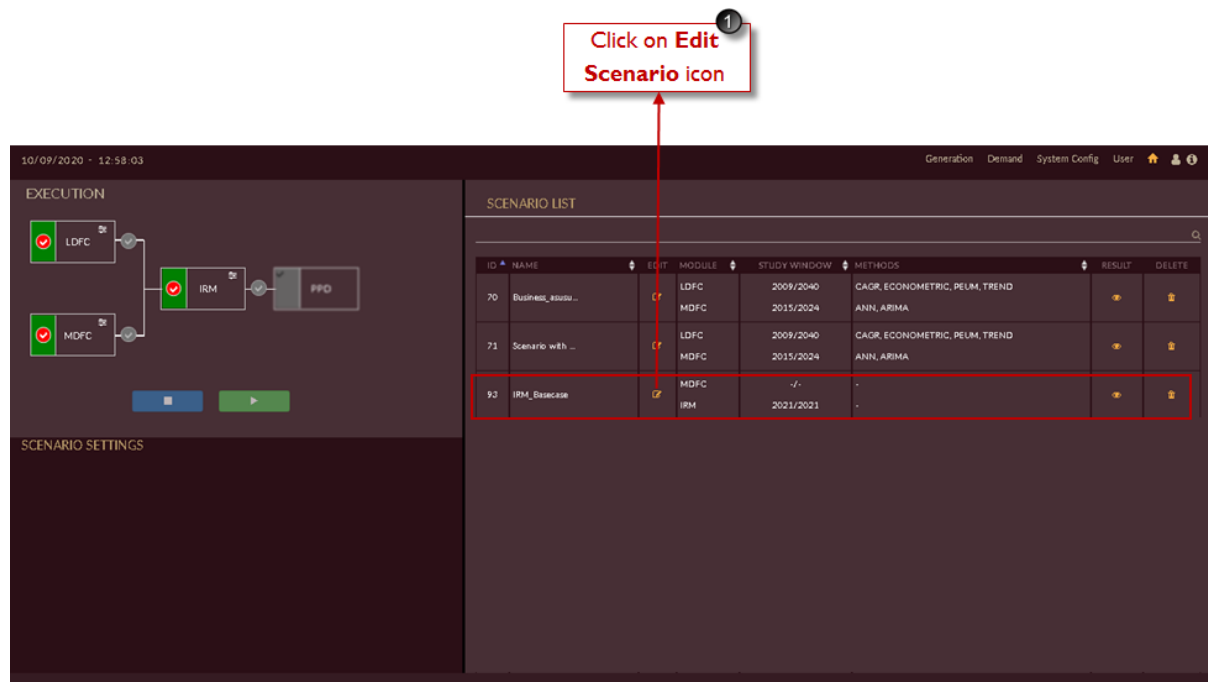

Figure 191. Editing IRM Scenario
1. In the scenario list shown in Figure 191 click on the **Edit scenario**  icon for IRM_Basecase scenario.